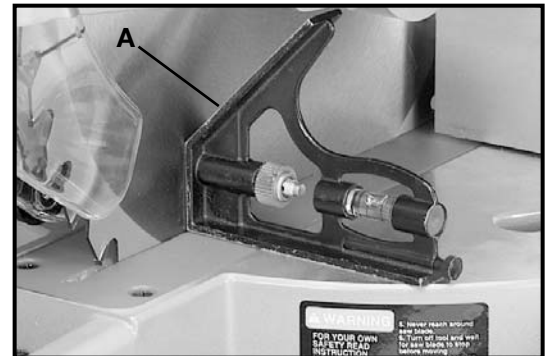

Fig. 23
3. Place one end of a square (A) Fig. 23 on the table and the other end against the blade. The blade should be set at 90 degrees to the table.